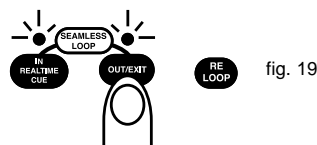

fig. 19
- (3) Press OUT/EXIT BUTTON (21) to set desired ending point of the SEAMLESS LOOP. You will know you are in SEAMLESS LOOP mode because IN REAL TIME and OUT/EXIT LEDs will light and flash. LOOP INDICATOR (37) in LCD DISPLAY (8) will also flash. Sound will continue with no interruption (SEAMLESS LOOP) (figure 19).